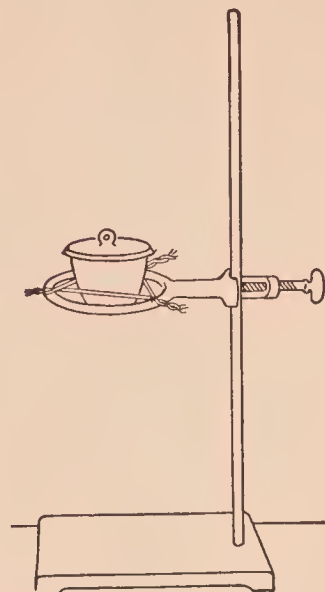

FIG. 28. — Covered crucible arranged for finding the water of hydration in a crystallized compound
**APPARATUS.** — Scales and evaporating dish for **A**, balance and covered porcelain crucible for **B**. (Fig. 28.)
Weigh accurately on the balance a clean, dry porcelain crucible. Put about 2 gm. of crystallized barium chloride in the crucible, and weigh accurately. Support the crucible on a triangle as in Fig. 28, and put on the cover. Heat gently at first, and then strongly for about fifteen minutes. Let the crucible cool, and then weigh it (uncovered).